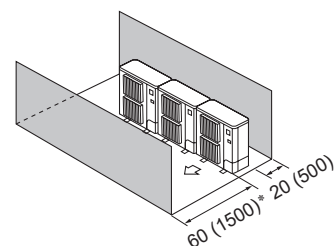

Fig. 2-14
- ④ Obstacles at front and rear (Fig. 2-14)